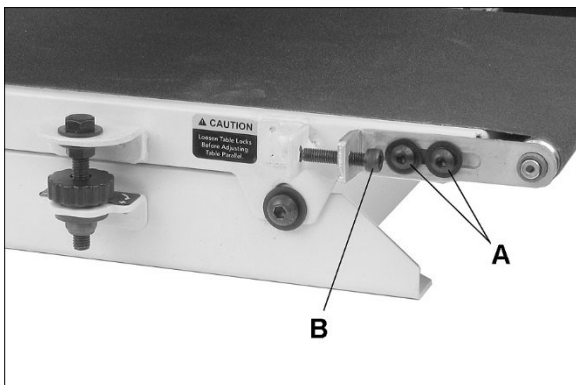

Figure 7-2: belt tension adjustment
1. Slightly loosen four screws (A, Figure 7-2) on infeed side of conveyor, with 4mm hex wrench (two screws on each side).
2. Turn take-up screw (B, Figure 7-2) with 5mm hex wrench. Do this on *both sides* of conveyor to obtain approximately equal tension on both sides of sanding belt when taut.
3. Tighten four screws (A, Figure 7-2).
3. If conveyor drifts, slightly loosen two screws (A, Figure 7-2) and turn take-up screw (B, Figure 7-2) on *one side* of conveyor as needed.
4. When adjustment is satisfactory, tighten two screws (A, Figure 7-2).